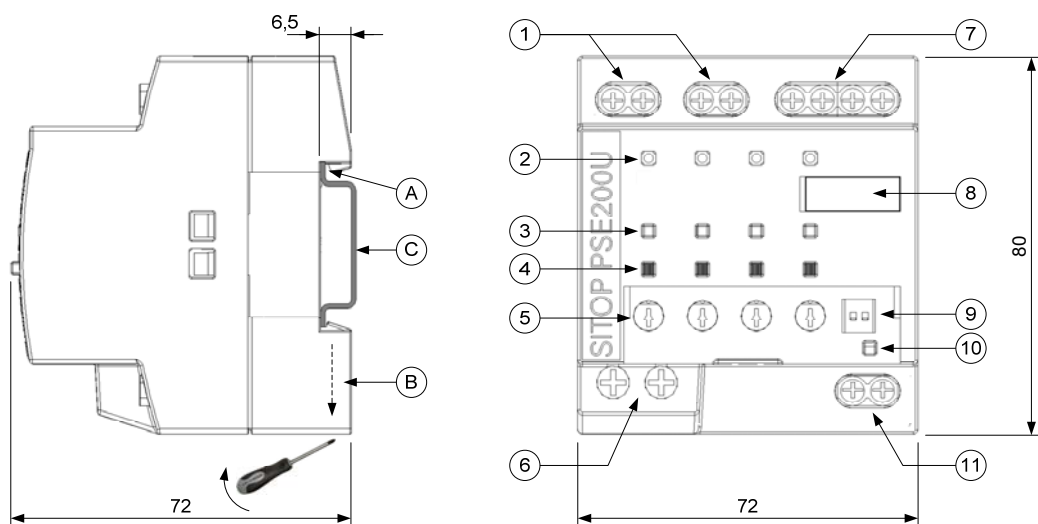

Abbildung 1: Maßbild (mm) / Figure 1: Dimension drawing (mm)
To snap the device on to the rail, hang it with its lug (A) on the rail (C) and press until the spring (B) snaps into place. To remove it from the DIN rail, use a screwdriver to loosen the spring (B) in the direction of the arrow and take off the device (see figure 1).